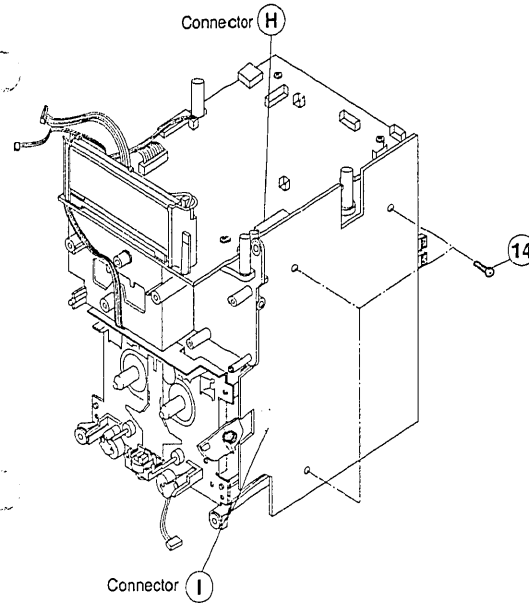

Fig. 11
- (1) Remove 4 screws ⑬ from the Main Chassis.
- (2) Pull out the main P.W.B gently from the CD P.W.B to disconnect 2 connectors ⑬ and then disconnect 2 connectors ⑭.
10. **Removal of Tuner P.W.B (Fig. 11)**